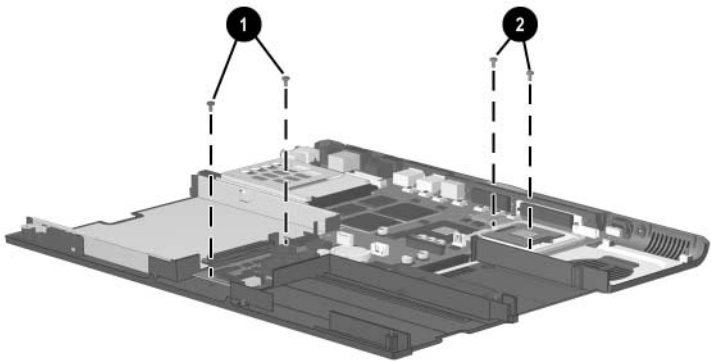

Figure 5-34. Removing the System Board Screws
5. Remove the two PM2.0 × 5.5 screws ❶ that secure the system board to the base enclosure on either side of the MultiBay connector (Figure 5-34).
6. Remove the two PM2.0 × 8.0 screws ❷ that secure the system board to the base enclosure through the processor support bracket.